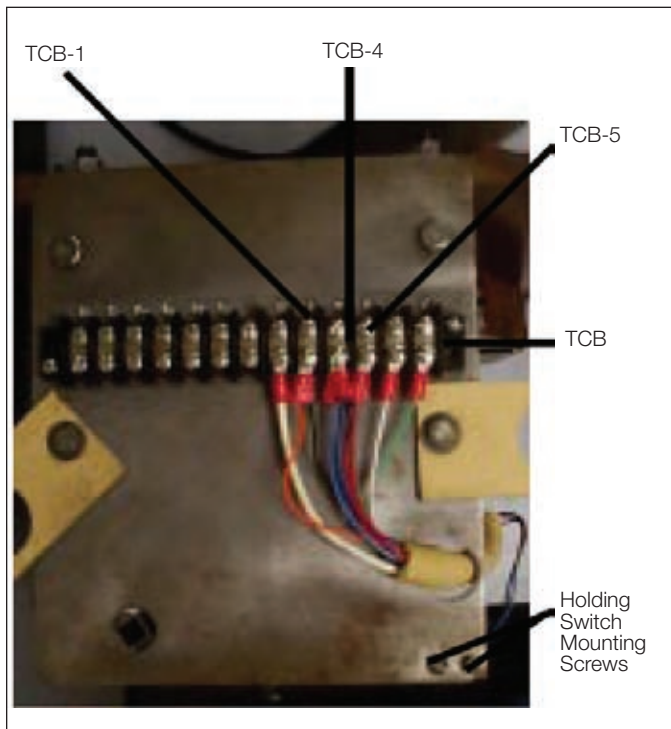

Figure 2. Top Plate Assembly.
1. Remove holding switch leads from the terminal block located on top of the Top Plate Assembly. See Figure 2.
2. Remove the two screws attaching the holding switch to the top plate located on the Top Plate Assembly. See Figure 2.
5. Fasten the replacement holding switch to the top plate assembly using the two mounting screws. See Figure 2.